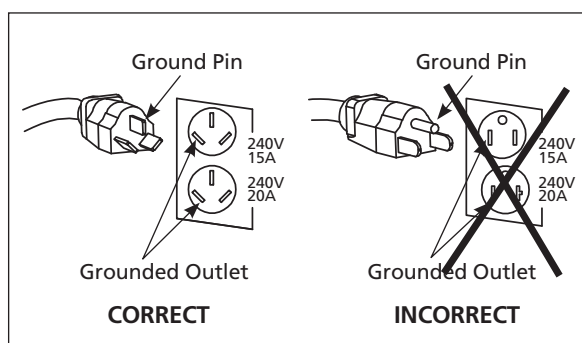

Figure 3 - Grounding Method
1. This product is for use on a nominal 240V circuit. It must be grounded. In the event of an electric short circuit, grounding reduces the risk of electrical shock by providing an escape wire for the electric current. Unit is equipped with a cord that has a grounding prong. It will fit one of the common outlet types shown in Figure 3. If plug will not fit in the desired outlet, have the plug or the outlet replaced by a qualified electrician.
3. This product is for use on a nominal 240V circuit and has a grounding plug that looks like the plug illustrated in Figure 3.